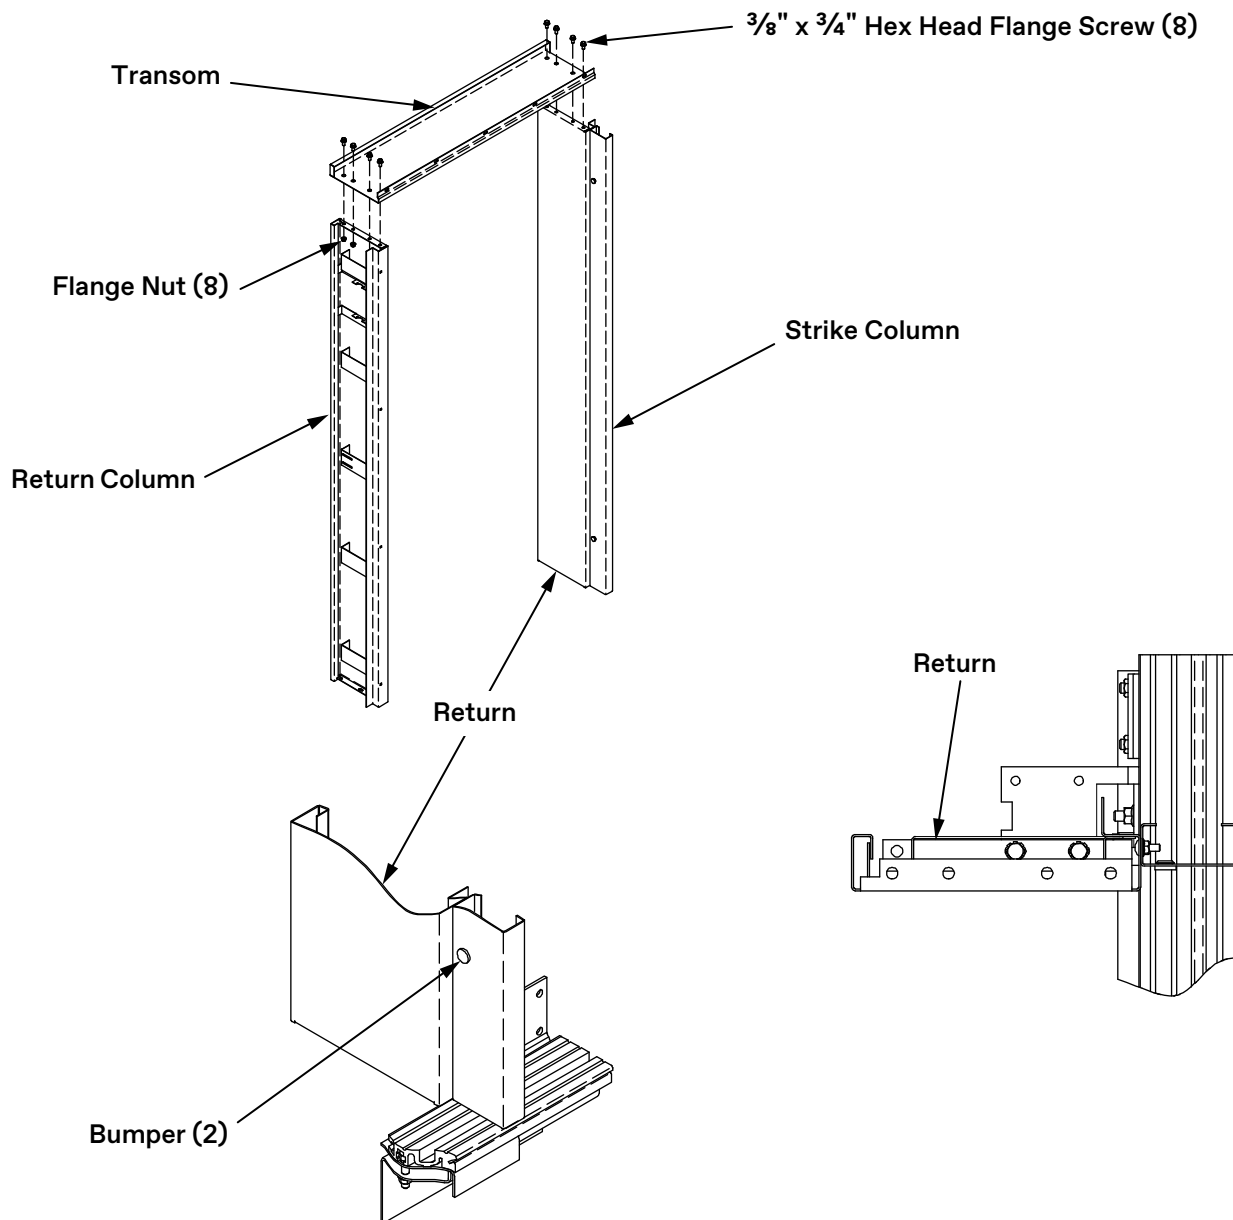

Figure 41 - Assemble Entrance Frames
2. At a landing, assemble the entrance frame face down on cardboard or carpet in front of the opening. See Figure 41.